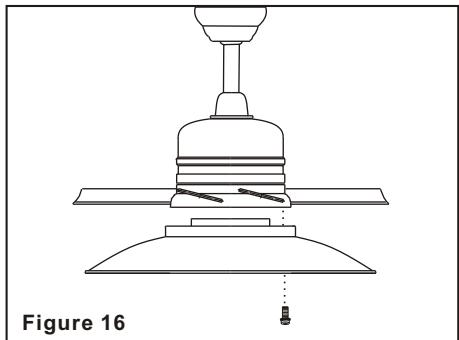

Figure 16
**Step 1.** (Fig. 16) Remove 1 of the 3 screws from the bottom of the bottom of the motor housing and loosen the other 2 screws. (Do not remove) Bring the Light Kit Housing close to the Motor Housing, Pass the two wires from the motor through the access hole of the Light Kit Housing.
**Step 2.** (Fig. 16) Proceed to make the wire connections by snapping the two connectors from the motor to the two connectors from the Light Kit Housing.
**Step 3.** (Fig. 16) Place the key holes on the light kit housing over the 2 screws previously loosened from the mounting ring, turn light kit housing until it locks in place at the narrow section of the key holes. Secure by tightening the 2 screws previously loosened and the one previously removed.